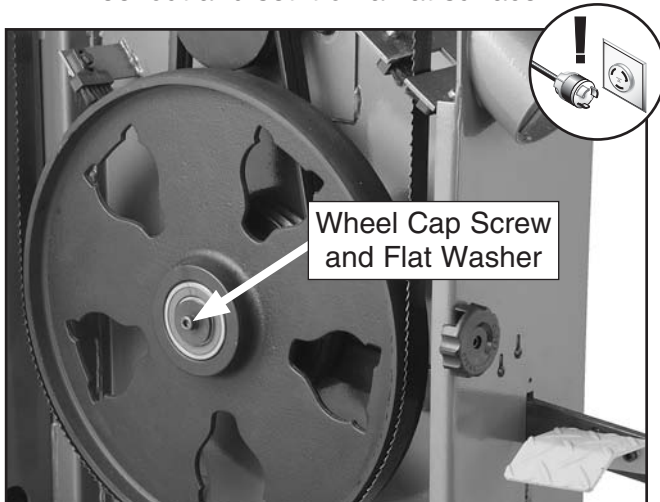

Figure 73. Wheel cap screw for removing the wheel.
5. Remove the wheel cap screw and flat washer shown in **Figure 73**, then slide the lower wheel out and set it on a flat surface.